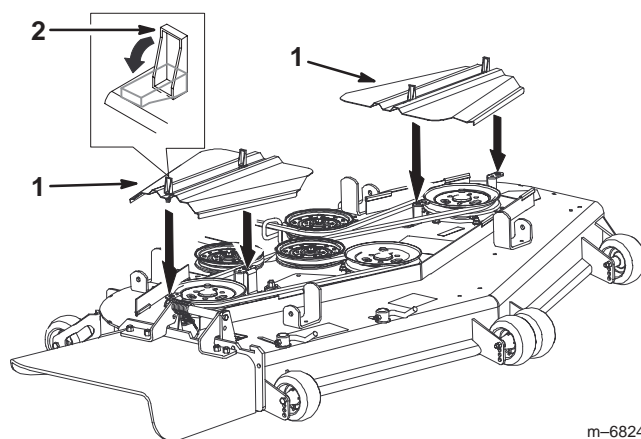

Figure 68
- Remove the belt covers (Fig. 68).
10. Install the belt covers and close the latches (Fig. 68).